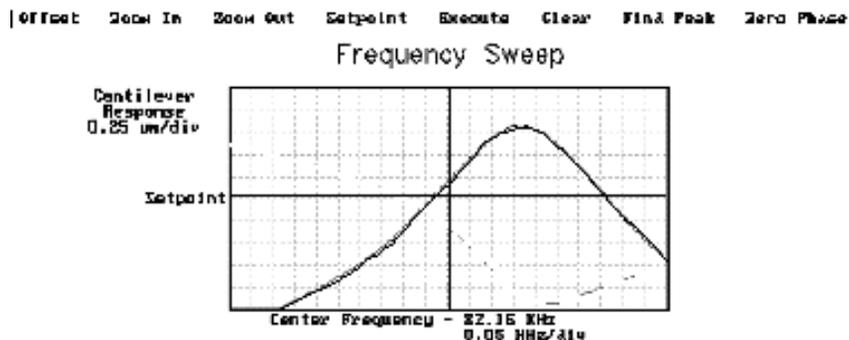

Figure 230-20 Amplitude Detection Cantilever Tune
- Set the **Drive frequency** to the left side of the cantilever resonance curve, as shown in Figure 230-20.